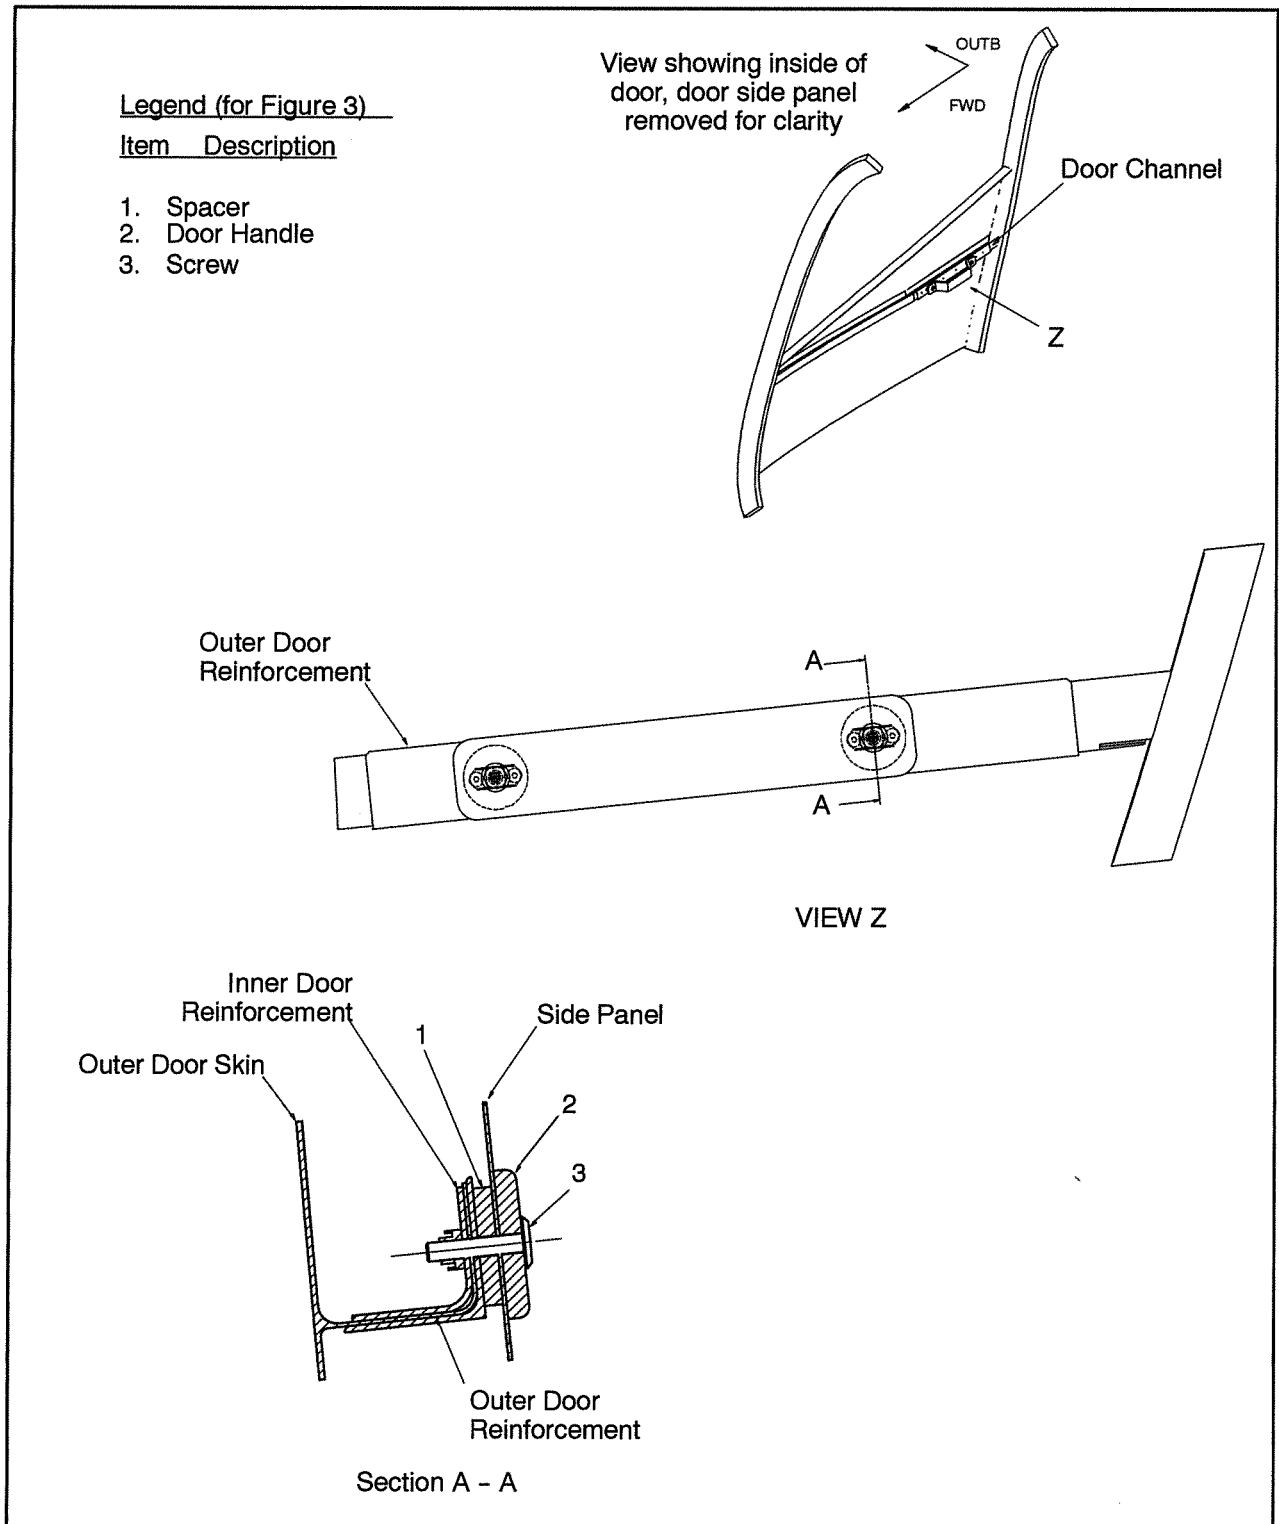

Figure 3 Door Handle Details (Sheet 2 of 2)
- 1) DOOR HANDLE (Refer to Figure 3)
- a) Remove screws (3) (2 places) that secure the door handle to the inside of the RH Door.
- 1) DOOR HANDLE(Refer to Figure 3)
- b) Secure door handle using screws (3) (2 places).